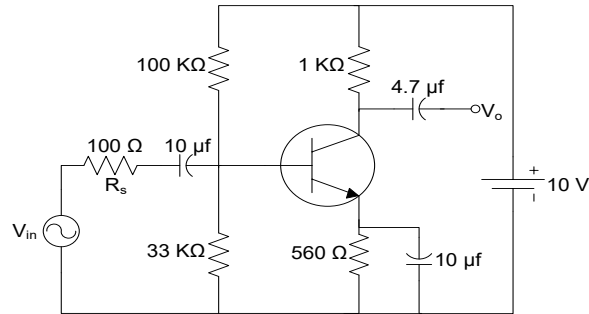

Figure 7.1: Experimental Circuit.
1. Arrange the circuit shown in figure 7.1 and record  $R_s$ .